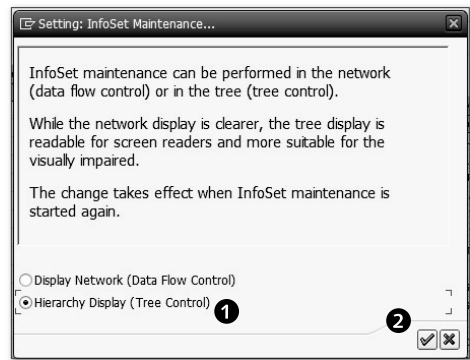

Figure 6.29 Changing the InfoSet Maintenance Screen Setting
So far we've seen the network display. You can change between the two settings by using the menu path SETTINGS • DISPLAY. The SETTING: INFOSET MAINTENANCE box appears, as shown in Figure 6.29. Select the HIERARCHY DISPLAY (TREE CONTROL) radio button ❶. Click on the CONTINUE icon ❷.